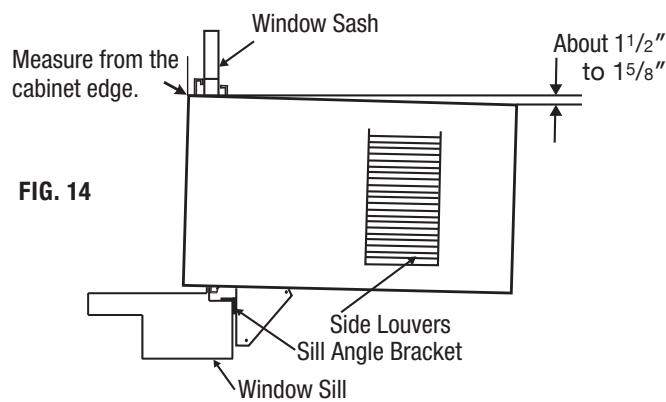

FIG. 14
**NOTE:** Check that air conditioner is tilted back about  $1\frac{1}{2}$ " to  $1\frac{5}{8}$ " (tilted about  $3^\circ$  to  $4^\circ$  downward toward the outside). If, after proper installation, condensation does not drain from the overflow drain hole during normal use, adjust slope. (Fig 14)